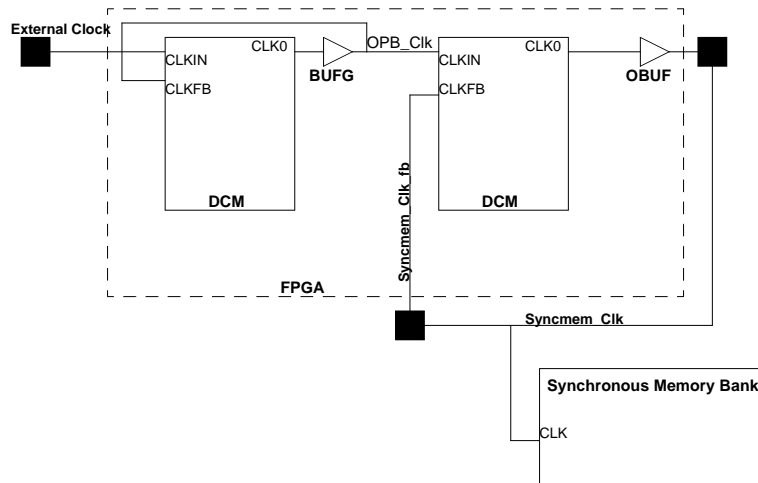

Figure 1: The clocking scheme required for external ZBT memory with clock feedback (Taken from Xilinx's OPB EMC datasheet).
- Open the Add/Edit Cores dialog and add two instances of dcm_module. The two DCM modules will be used to create the clocking scheme shown in Figure 1. Add the following to the ports table for each of the DCM modules: CLKIN, CLKFB, RST, DSSEN, PSEN, CLK0, LOCKED. Set them all as internal in scope.